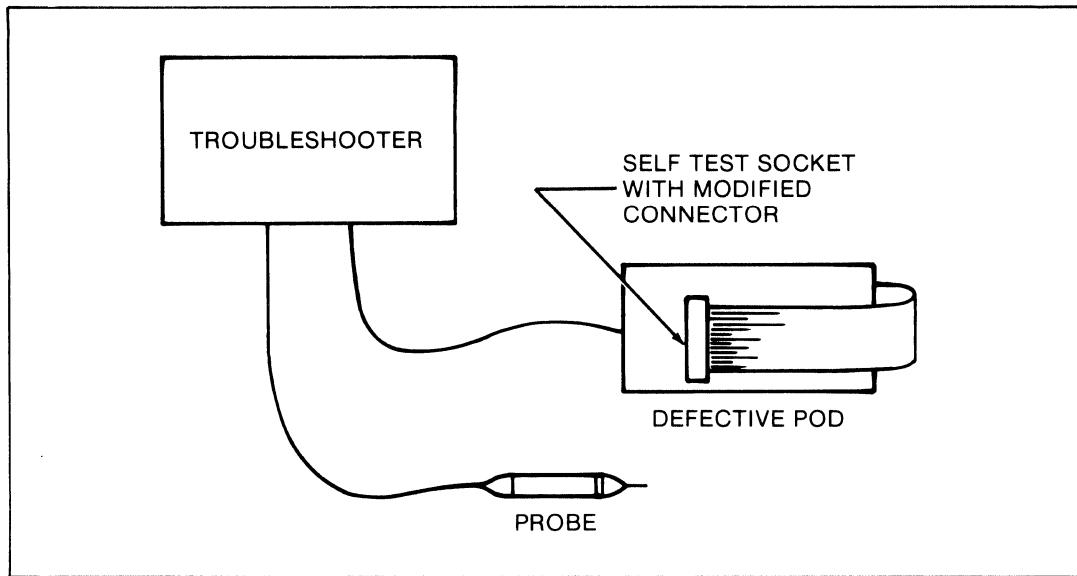

Figure 5-2. Troubleshooting a Defective Pod
2. Connect the pod to the troubleshooter, and the ribbon cable connector to the UUT, or the self test socket as shown in Figure 5-2. Note that the troubleshooter is connected to the defective pod by means of the shielded cable, and not by means of a second pod to the microprocessor socket. Also, Figure 5-2 shows the self test socket as the UUT, although any suitable UUT may be used. (Refer to Selecting a UUT for Pod Testing.)